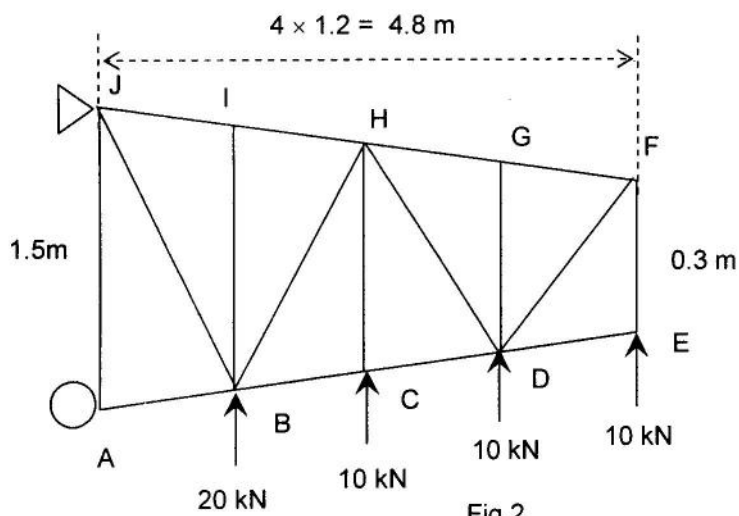

Fig.2
16. Find the forces in the members HD, BC and IH for the pin jointed truss loaded as shown in figure 2.